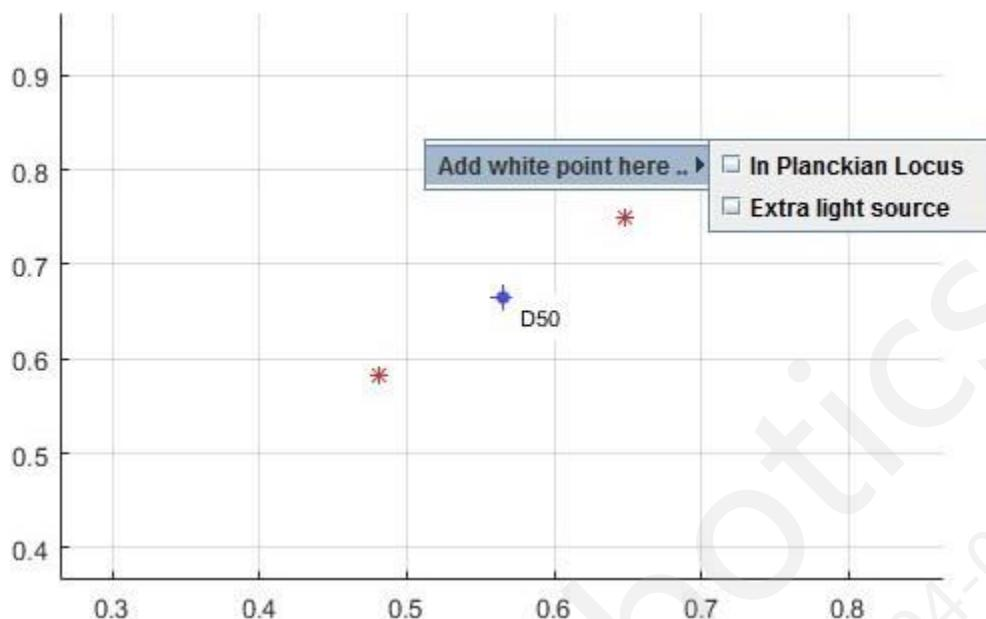

Figure 3.3-4 Manual addition of white point.
- B. Manually – Right click the Planckian Locus plot to add a point (Planckian or extra illuminant) at the mouse position as shown in Figure 3.3-4.